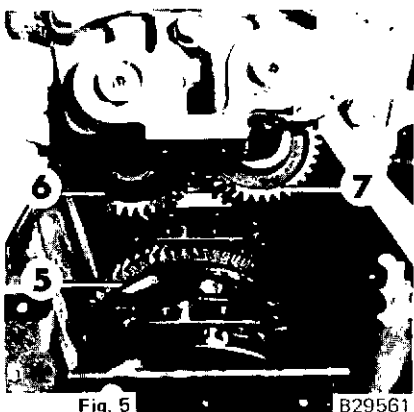

Fig. 5 B29561
- 0-0 marking on the balance weight drive gear 5 on the crankshaft with the zero mark on the compensating shaft gear 6 (Fig. 5)
- 1-1 marking on the compensating shaft gear 6 with the 1 mark on the compensating shaft gear 7 (Fig. 5)